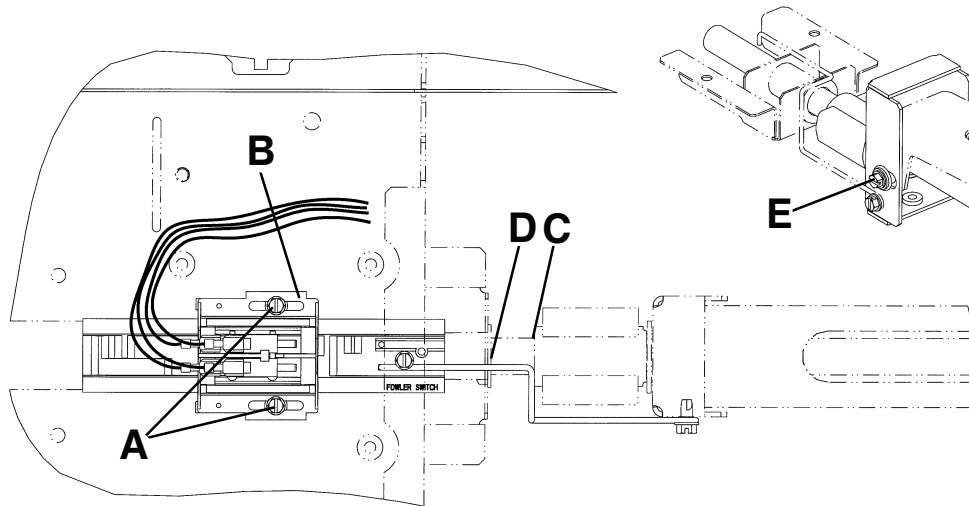

Figure 15 – Fowler motor assembly
4. Lower the Fowler until the bolt and bushing (E) are centered in the slot (Figure 15).
6. Using a 5/16" nut driver and a 3/8" drive ratchet, loosen the two screws (A) on the cam (B) (Figure 15).
8. Tighten the two screws (A) (Figure 15).